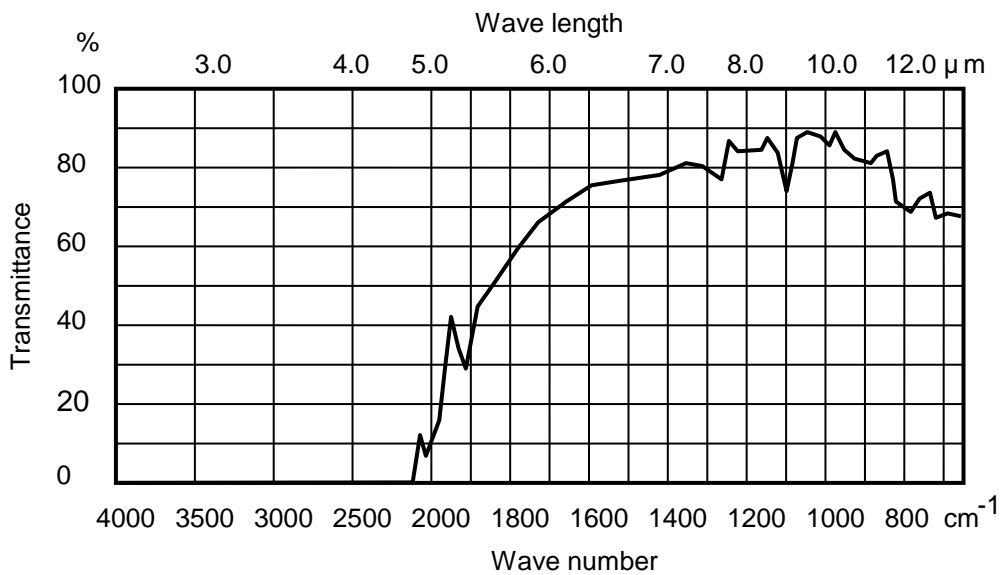

Figure4. Transmittance of optical filter (example)
- Transmittance : See the graph shown in figure4.